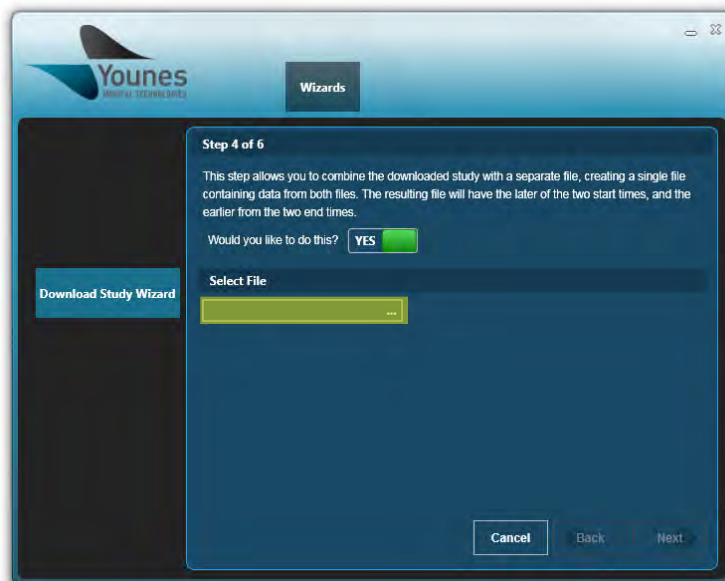
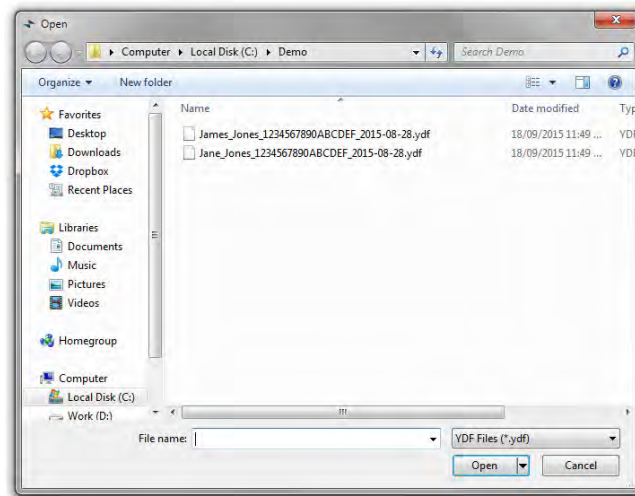
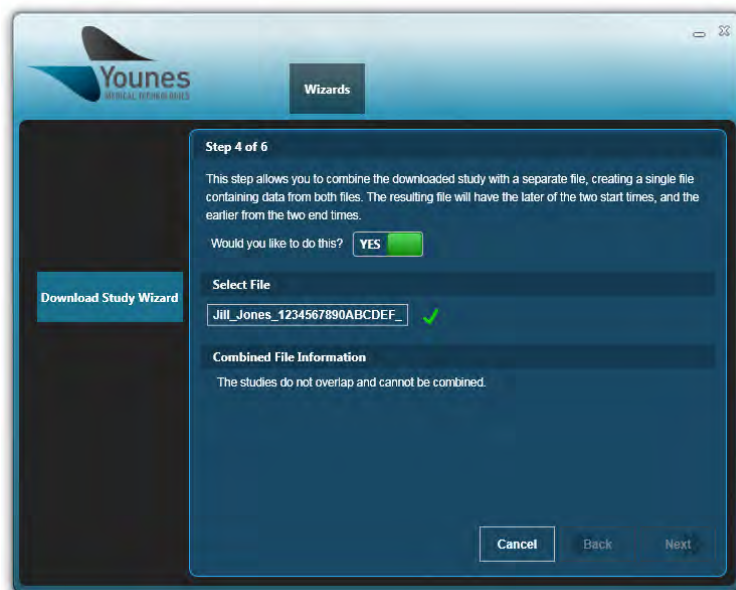

Figure 79 – Windows PC Prodigy Application Screen With “Select file” Box Highlighted (Download Study Wizard)
Figure 80 – Windows PC Prodigy Application File Open Screen
Figure 81 – Windows PC Prodigy Application Combine Study Failure Screen (Download Study Wizard)
To select a file, click anywhere in the rectangle highlighted in Figure 79. A window will appear like that shown in Figure 80, which provides you with the ability to open a sleep study file.
If the files cannot be successfully combined, the screen will appear as shown in Figure 81. If there is another study you wish to combine the current downloaded study with, you can try to download a different study by clicking anywhere in the rectangle highlighted in Figure 79. If there is no other study you wish to combine the current downloaded study with, you must click “Cancel” and repeat steps 6-8 in this manual.
3. A dialog box will appear providing you with the opportunity to choose the file you wish to see, as shown in Figure 80. Select a file and then select “Open.”
4. A dialog box will appear providing you with the opportunity to choose the file you wish to see, as shown in Figure 80. Select a file and then select “Open.”
7. A dialog box will appear providing you with the opportunity to choose the file you wish to see, as shown in Figure 80. Select a file and then select “Open.”
9. A dialog box will appear providing you with the opportunity to choose where to save the combined file and to choose the file name, as shown in Figure 80. Choose a location and name for the file, then select “Save.”